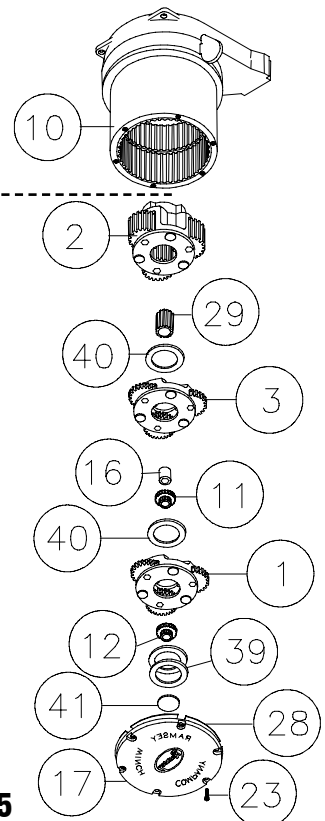

Figure 5
3. Gently lift the Gear Housing assembly, working the gears, bushings, etc. that are inside the Gear Housing out so that they are left stacked on the workbench. See Figure 5.
4. Turn the Gear Housing assembly over and set on workbench. Remove the Retainer (item #37) by removing six capscrews (item #21) from Gear End Bearing (item 13). Once the retainer is removed, the Ring Gear (item #10), Cam Ring (item #36), and Locking Ring (item #34) can be lifted off the end bearing.